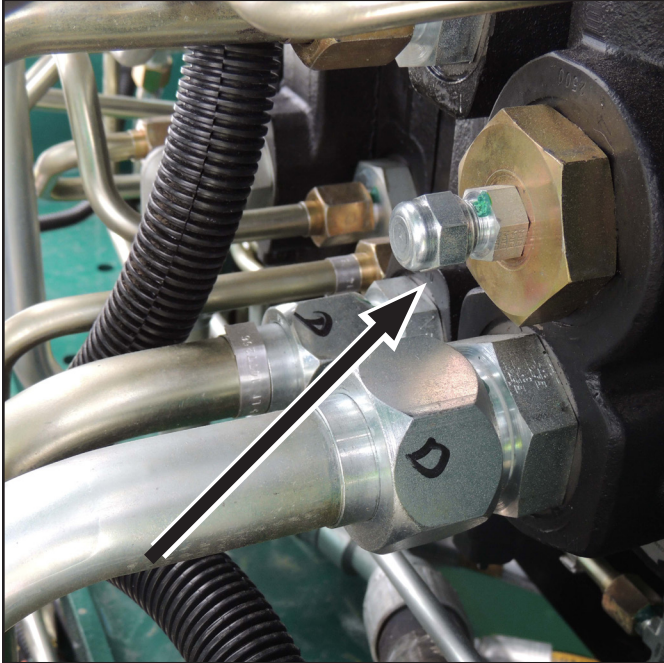

Figure 5: Install the #6 JIC cap on the inlet port.
7. Use a 11/16" wrench to install the #6 JIC cap on the inlet port (Figure 5).